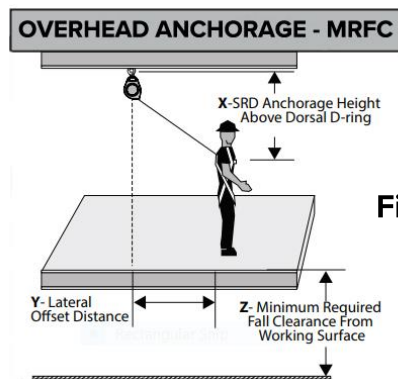

Fig. 7
- The SRD when used as a standard SRL may be anchored anywhere in the allowable attachment area, which ranges from a height above the user to level with the Dorsal D-ring of the full body fall arrest harness (Fig. 7).